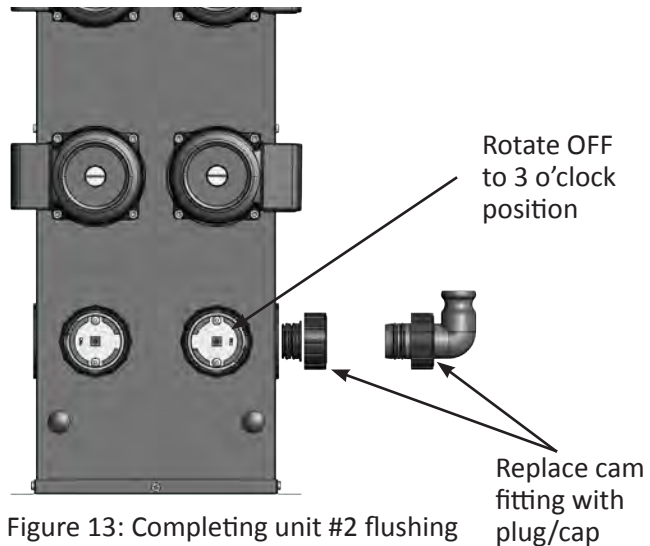

Figure 13: Completing unit #2 flushing
4. Rotate the lower right valve so that OFF is in the 3 o'clock position. Remove the flush cart discharge hose from the lower left valve and install a plug seal and cap (Figure 13). Be sure to lubricate the O-rings on the plug seal to allow for easier removal during future service.